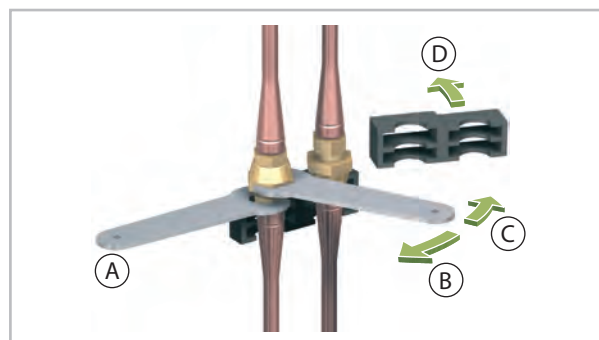

Fig. 14: Unscrew the left-hand union nut
- 9. ➤ Unscrew the left-hand union nut with the size 24 open-ended spanner provided. In doing so, use the second size 21 open-ended spanner to hold the lower coupling section still (Fig. 14).